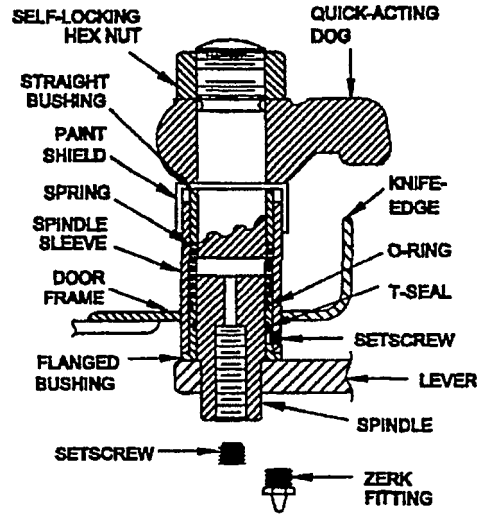

Figure 600-2.53. Quick-Acting Door Dog Assembly (Cross Section View) Modified by MACHALT 167-31010 (ECP-526)
- a. Remove setscrew. Clean internal grease passages of spindle using EDC cleaning fluid and cotton tip applicators. Clean internal threads of spindle with a 5/16-24UNF tap, using LPS Tapmatic no. 1 gold as a lubricant. Reinstall setscrew. See figure 600-2.53.